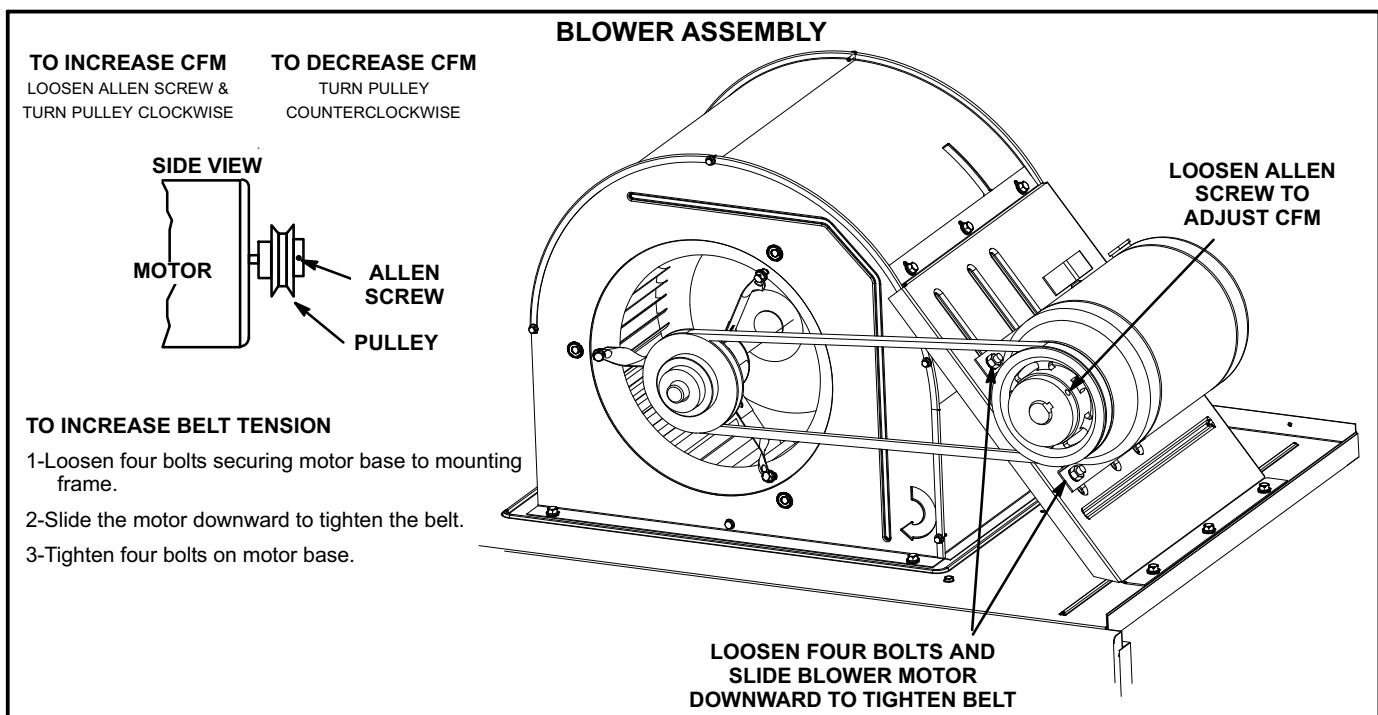

FIGURE 8
- 5- The blower RPM can be adjusted at the motor pulley. Loosen Allen screw and turn adjustable pulley clockwise to increase CFM. Turn counterclockwise to decrease CFM. See figure 8. Do not exceed minimum and maximum number of pulley turns as shown in table 2.
- 1- Loosen four bolts securing motor base to mounting frame. See figure 8.